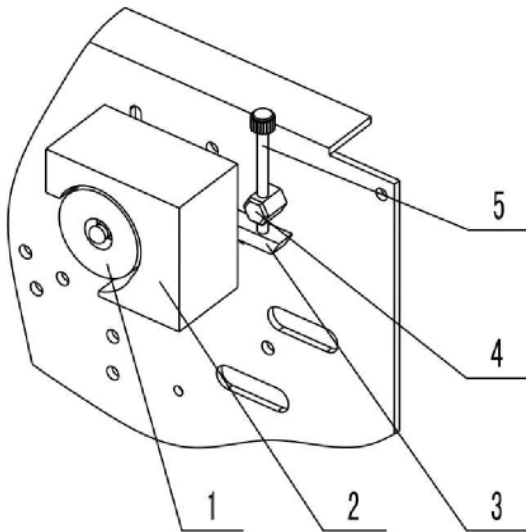

Figure 21. (1) Ink Roller, (2) Ink Roller Heating Block, (3) Swing Pole, (4) Adjusting Strut, (5) Ink Wheel Adjusting Device
6. **Adjusting Ink Wheel Adjusting Device.** As the print wheel rotates, check that the printing wheel makes contact with the ink roller. Make adjustments using the ink wheel adjusting device (Figure 21, Item #5) if necessary. Turning the adjusting screw clockwise will move the ink roller away